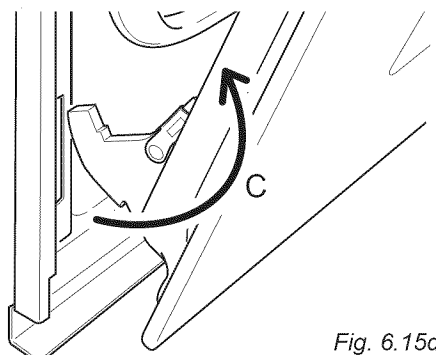

Fig. 6.15d
- Withdraw the hinge hooks from their location following arrow "C" (fig. 6.15d).